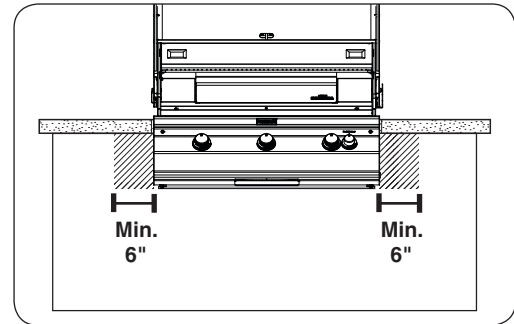

Fig. 12-1 Control panel clearances
- The control panel **MUST** have a minimum side clearance of 6" from any obstructions/side walls. See Fig. 12-1.